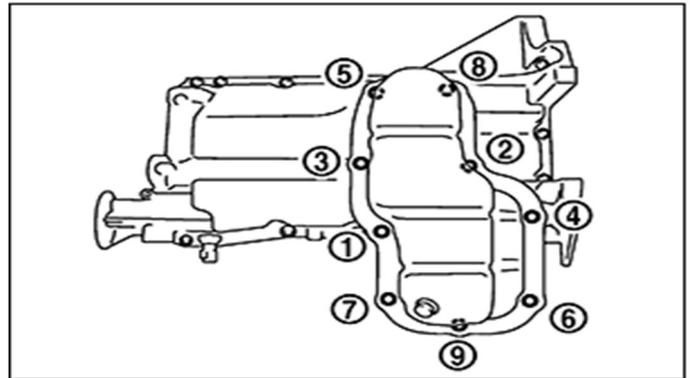

Figure 8
- Remove engine oil pan bolts in order using 10mm socket (Figure 8)